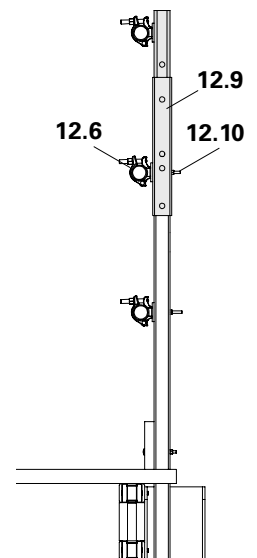

Fig. A1.33b
- As an alternative to the guardrail boards, scaffold tubes can be connected with Guardrail Connector CB (12.6) and Screw ISO4762-M8x70-8.8-ga, Nut ISO7040-M8-8-ga and Washer ISO7090-8-200HV (12.10). (Fig. A1.33b).